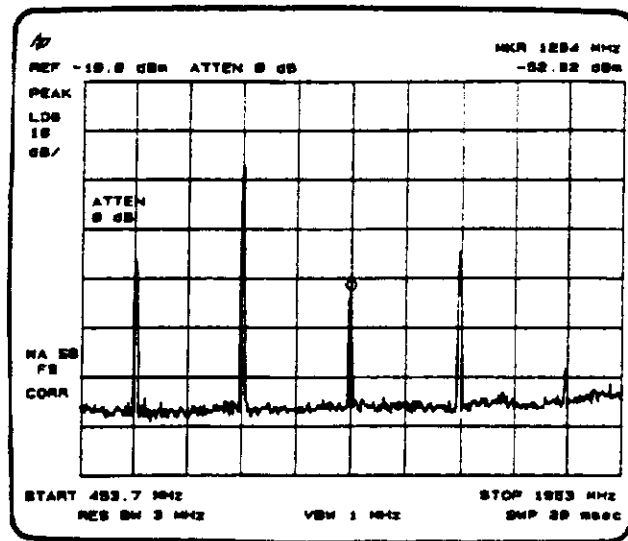

Figure 2-10
1. Connect the CAL OUTPUT signal to the RF INPUT. (The calibration signal does not exceed the maximum power level.) Press **PRESET**, then **PEAK SEARCH**. Press **[NEXT PK RIGHT]** until the marker is placed on the low signal peak at the right side of the screen. See Figure 2-10.